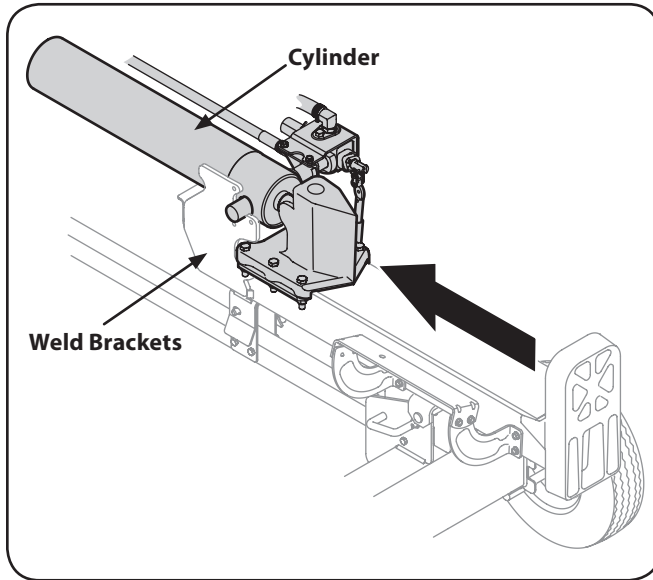

Figure 3-6
- Lift and slide the cylinder up to the top of beam and into the weld brackets. See Fig. 3-6.